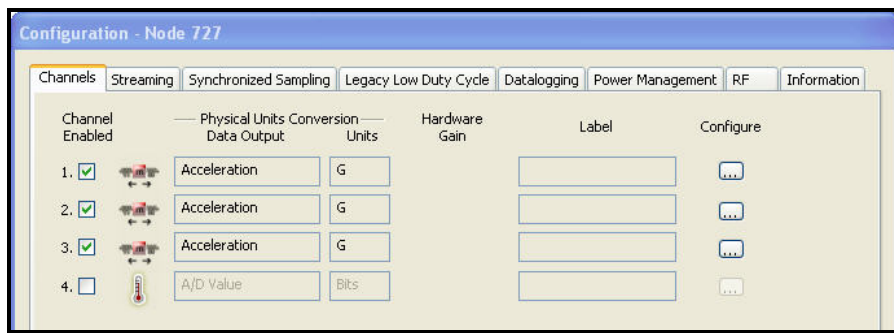

Figure 3 – Channels tab
- Ensure that Channels 1, 2 and 3 are enabled and that the Physical Units Conversion is Acceleration in Gs as shown in *Figure 3*. If not, reconfigure the G-Link® to this state.